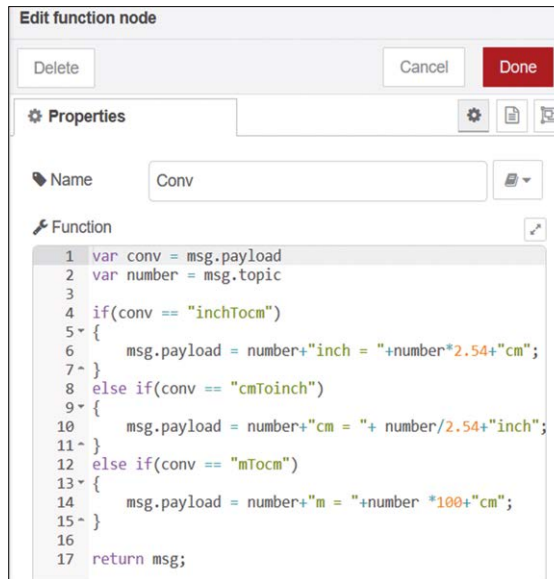

Figure 4.30 Create a function node
- Create a **function** node named **Conv**, and enter the following code inside the function (see Figure 4.30) and click **Done**: